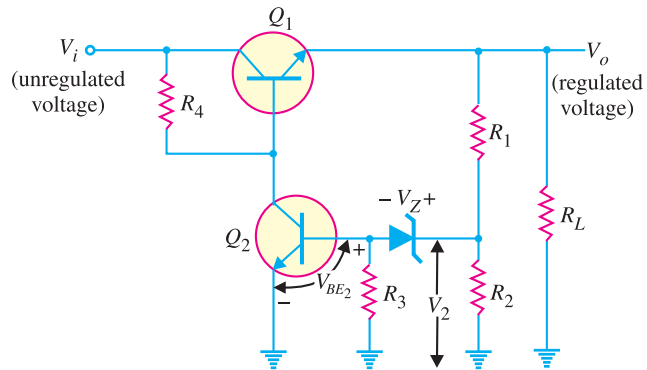

Fig. 17.33
3. What regulated output voltage is provided by the circuit of Fig. 17.33 for circuit elements : $R_1 = 20 \text{ k}\Omega$, $R_2 = 30 \text{ k}\Omega$ and $V_Z = 8.3\text{V}$? [15 V]